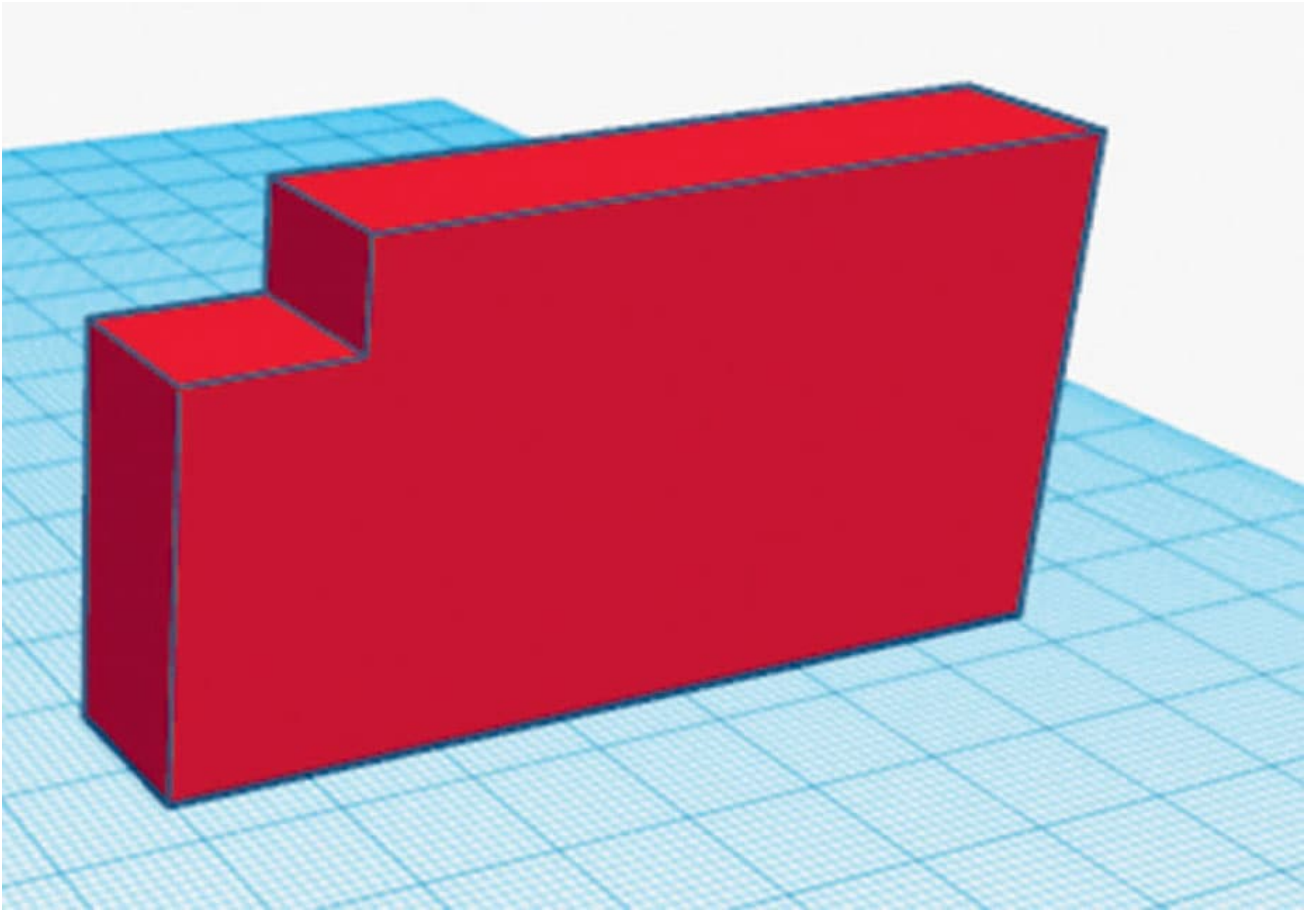

FIG. 1: Use two boxes to create a model of a palm with the lower portion representing the thumb side.
1. Create the palm of the hand using two different **Box** tools. Create a palm of width 73 mm $\times$ 16 mm (fig. 1). The lower seat portion is the side of the thumb.